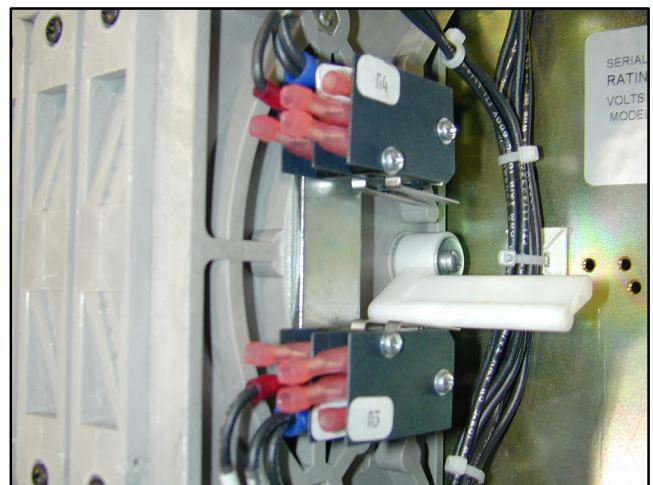

Figure 7-54 Microswitches
5. Note the location of the fast-on connectors to the microswitch terminals. See Figure 7-54.
12. Connect the fast-on connections to the microswitch terminals. See Figure 7-54.